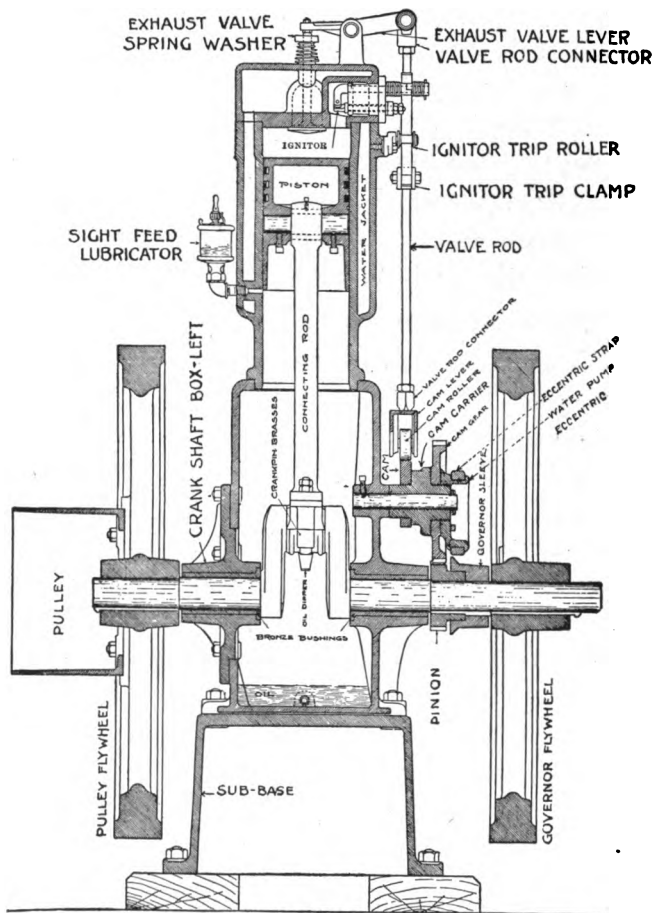

FIG. 151. Sectional view of gasoline engine.
**267. Gasoline Engines.** A gasoline engine (Fig. 151) should be operated out of doors or in a well-ventilated room, except in cases where the exhaust pipe is carried thru the wall of the building to the outside. The fumes may cause illness, or even death, to any one staying in the room.
Fig. 151 should be studied closely for a better understanding of the engine.